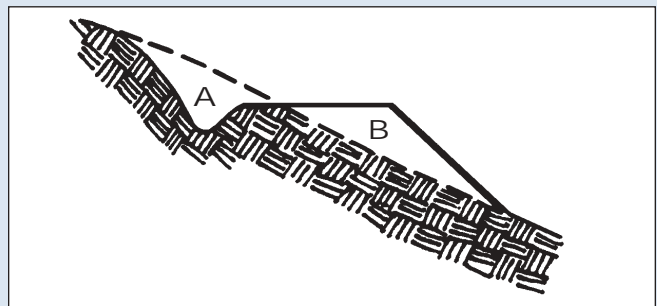

Figure 11-3: A side-hill cross-section illustrating how cut materials (A) equals fill materials (B).
- ✓ Locate roads to follow natural contours and minimize cut-and-fills. Balance cut-and-fills to minimize the need for fill or removing excess materials (see Figure 11-3).